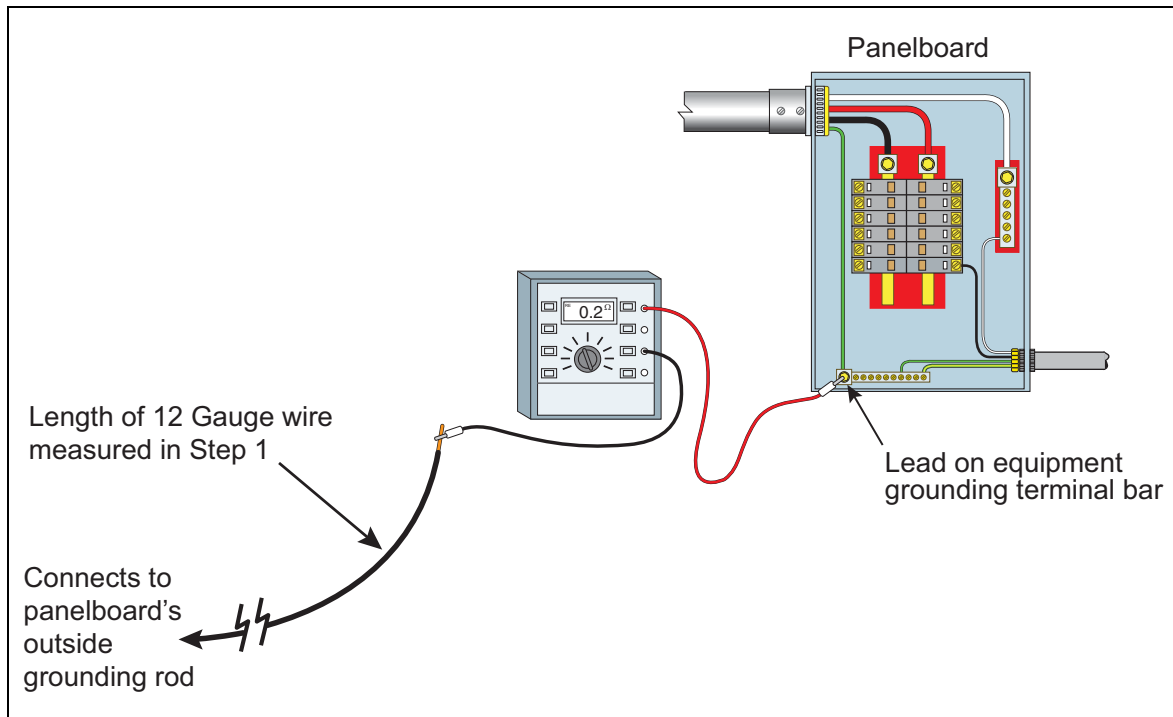

Figure 9. Panelboard To Ground Two Point Resistance Measurement Method - Step 3
Step 3 requires ensuring that the site's grounding system itself be checked for a proper connection between the main panelboard and the actual earth ground. This is tested as described in Steps 1 and 2 above by using the ohmmeter and the same length of wire. Measure the resistance between the ground point in the electrical panel and the ground connection at the outside earth grounding system (see Figure 9). Again, the resulting resistance for the grounding connection must be less than one-ohm and ideally, should be less than two-tenths of one ohm (0.20 ohms).